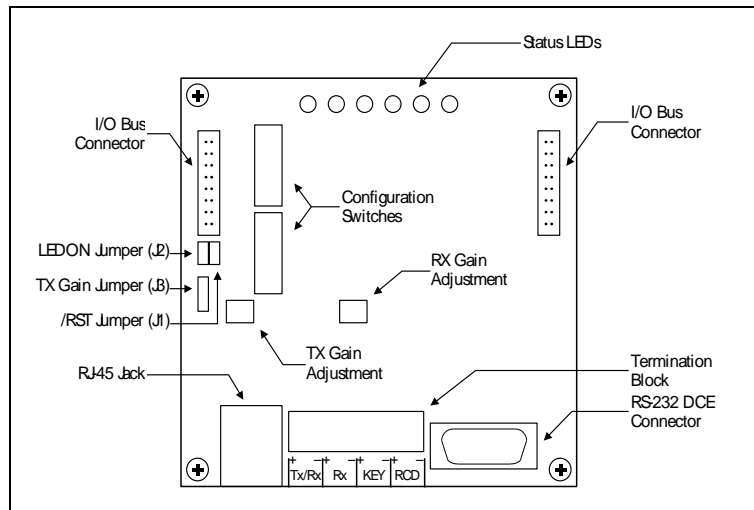

Figure 1: 5902 Module Layout
The 5902 modem is normally connected to the SCADAPack I/O Bus through the I/O Bus Connectors as shown in **figure 1**. In this configuration the SCADAPack provides a modem reset (/RST) signal and a signal to enable the leds (LEDON) on the 5902 modem.
The 5902 modem is also available in a standalone (SA) configuration. In this configuration the 5902 is not connected to a SCADAPack controller and the modem reset (/RST) signal and a signal to enable the leds (LEDON) on the 5902 modem are not available. Two jumpers, J1 and J2, are included to enable these signals on the 5902SA modem. **Figure 1: 5902 Module Layout** shows the location of the jumpers.
The 5902 modem has 16 configuration switches. They specify the modem communication parameters and operating modes. See **Figure 1: 5902 Module Layout** for switch locations. The functions are described in detail below.